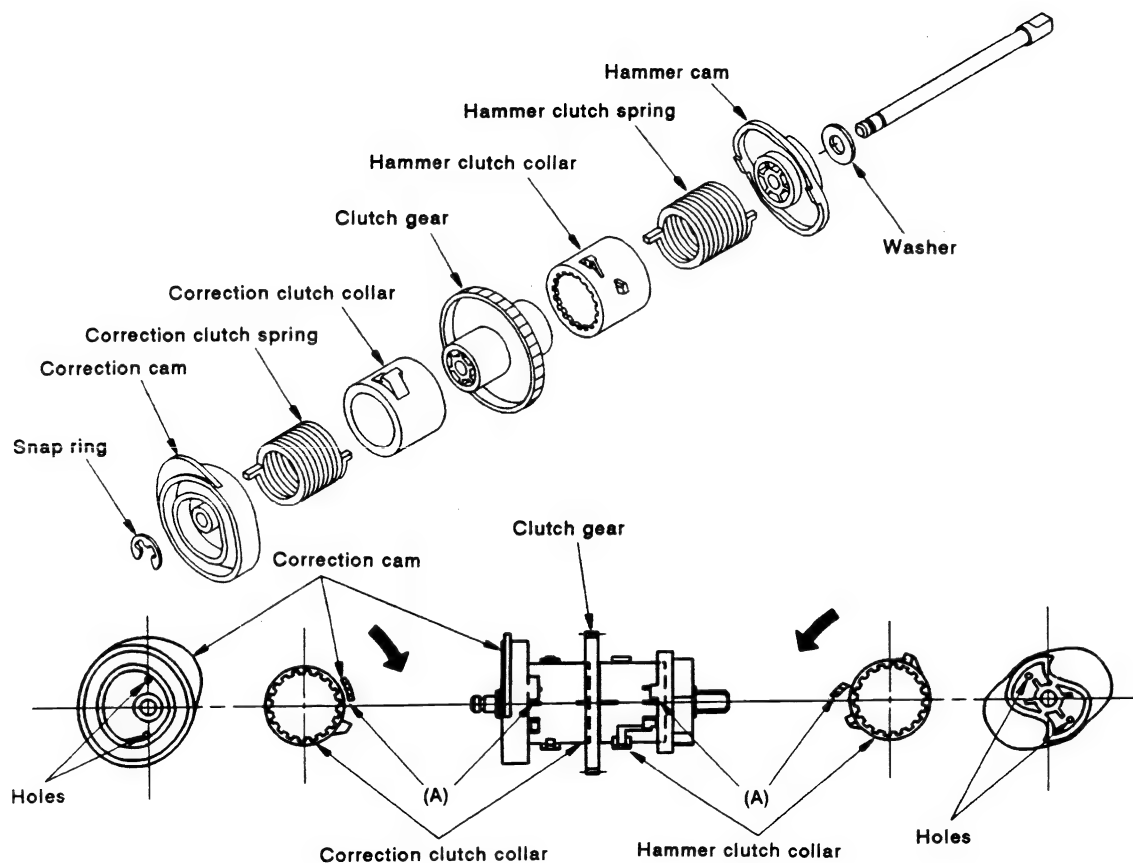

Fig. 12.2
Reassembly of these parts requires correct positioning. (Fig. 12.2)
Fit the correction clutch spring so that part (A) of the correction cam comes between the two small grooves of the correction clutch collar. The two grooves correctly locate its position when the clutch gear is rotated in the direction indicated by the arrow, with the correction clutch collar held still. This is done by correctly positioning the holes of the correction cam. See Fig. 12.2